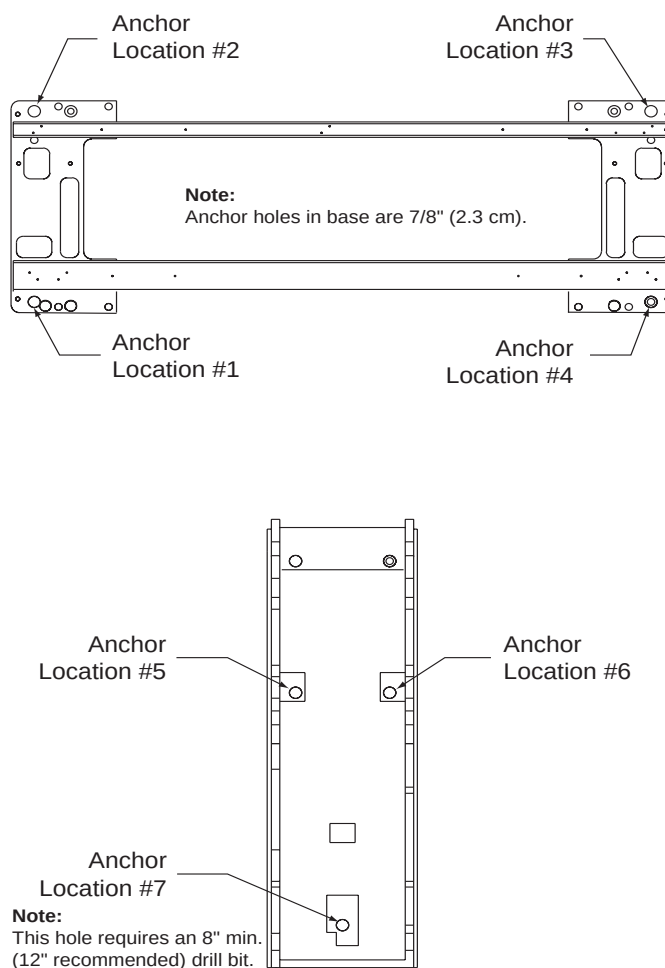

Figure 1-38 Anchor Locations (standard)
- 3.) Use the 13mm ($\frac{1}{2}$ ") bit to drill all seven (7) anchor holes (refer to Figure 1-38 for locations.)